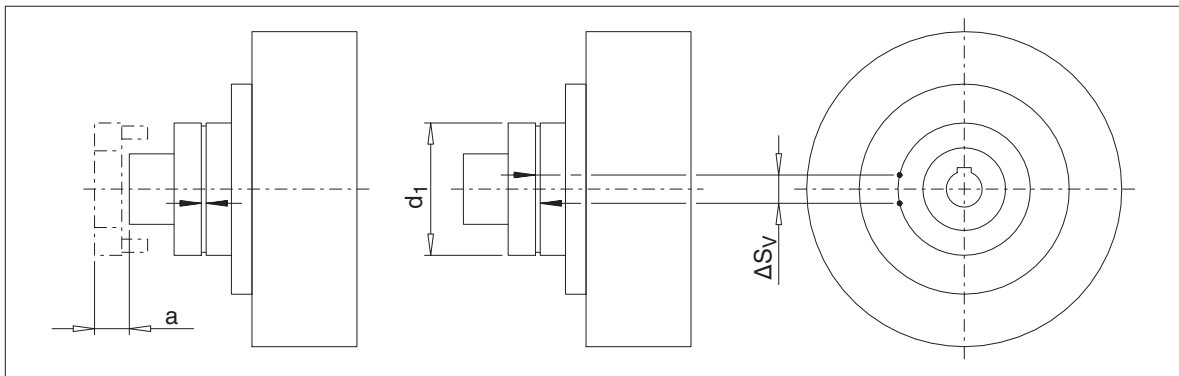

Fig. 10: Maintenance interval of the N-EUPEX add-on coupling
If an increased coupling backlash does not impair the operation of the coupling, the flexible elements (12) can continue to be used up to a specified wear limit before being replaced. To assess wear, the permitted torsional backlash, converted to the chord dimension ΔS_V on the outer coupling diameter, is shown in table 11. To obtain the dimension ΔS_V , one coupling part is rotated without torque as far as the stop and a mark applied to both side (see figure 10). If the coupling part is rotated in the opposite direction of rotation as far as the stop, the marks move apart. The distance between the marks is the chord dimension ΔS_V . If the dimension ΔS_V exceeds the value in table 11, the flexible elements (12) must be replaced.
On the FGD/FVD design replacement of the flexible elements (12) is possible without moving the coupled machines, if the replacement space "a" (see table 11 and figure 10) is allowed for. After the screw connection part 2/3 is released, part 3 is shifted axially and turned towards part 2. The flexible elements (12) are now freely accessible.